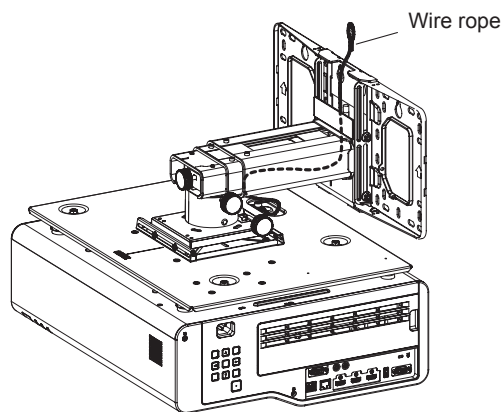

Fig.5
**5) Route the wire rope through the arm and pull it out to the top of the wall mount bracket. (Fig.5)**